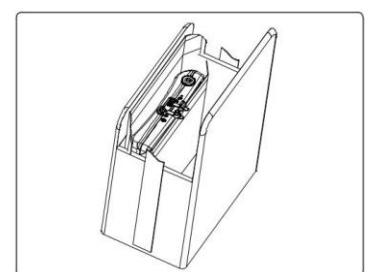

Figure 36. Put the device into storage/transport bag
3. After drying the WoundEL® device, store it in the WoundEL® storage/transport bag separately packed from other WoundEL® components until next use, *see Figure 36.*